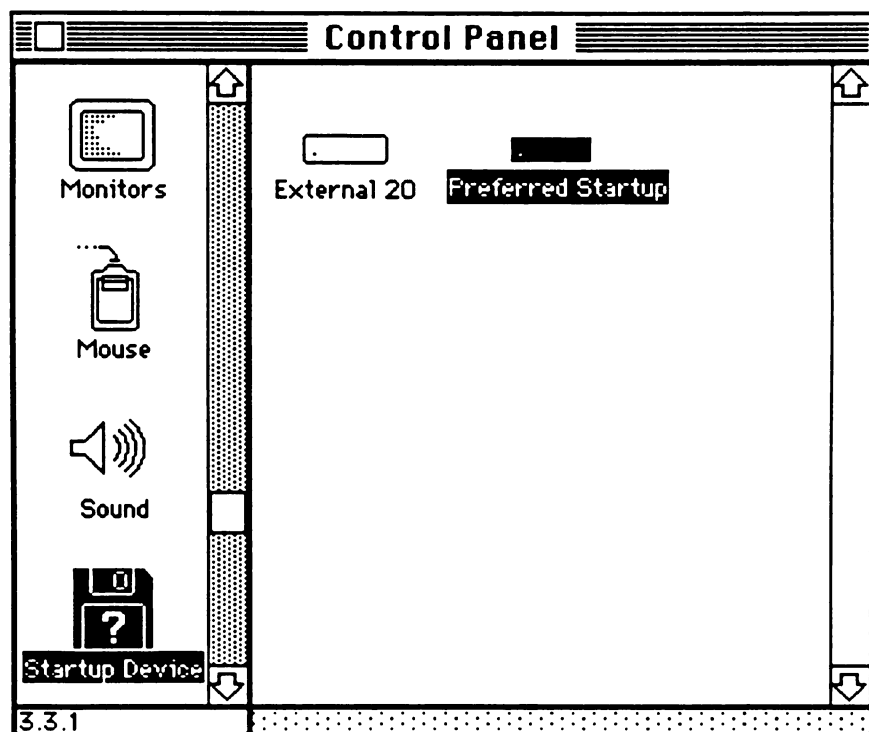

Figure 16. Using the Control Panel to designate the startup disk
10. If more than one hard disk contains startup information, you can select the preferred startup disk in the Control Panel, as shown in Figure 16. this gives you the convenience of switching startup devices to meet different application needs.